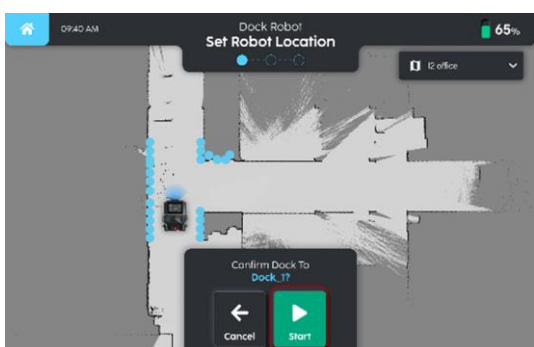
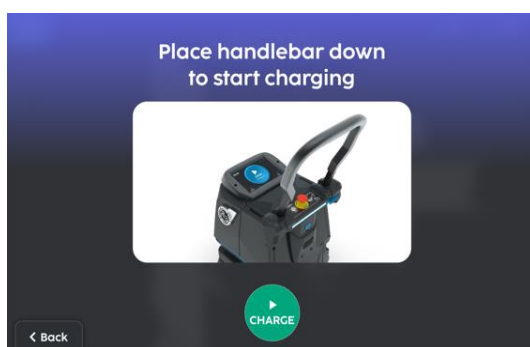
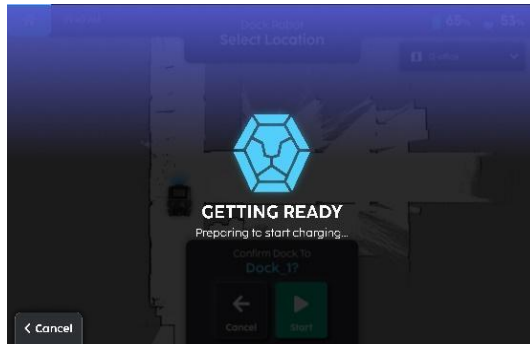

FIGURE 12-10
FIGURE 12-11
FIGURE 12-12
3. Press 'Start' (Fig. 12-10). If the handlebar is not yet down, place it down as prompted (Fig. 12-11) and docking will begin (Fig. 12-12).